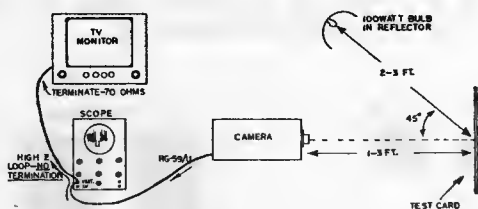

Fig. 4 Recommended monitoring during preliminary tune-up. Although scope is not required, it is desirable.
2. Position the camera, light and test card as shown in fig. 4. Connect the camera to the monitor and scope. NOTE: The camera must be terminated before it will work. The monitor should be set very near the correct vertical & horizontal scanning frequencies prior to feeding the camera signal to it. This can best be done by checking it out on a local broadcast station.